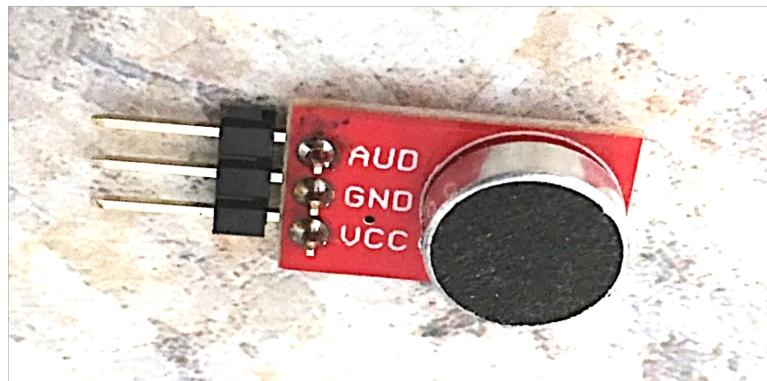

Figure 18: Header pins are mounted using the right-angle male header from the side that is opposite of the microphone module as shown.
STEP 3C. Solder the 3-pin 90-degree male header to the microphone board. The header pins should be mounted on the side that is opposite to the microphone module (see Figure 18). Ensure that no solder bridges form between the pads when soldering. **Note:** Microphones are sensitive to mechanical shock and electrical energy. **Keep your microphone in its original, static-resistant plastic bag until ready to install.**